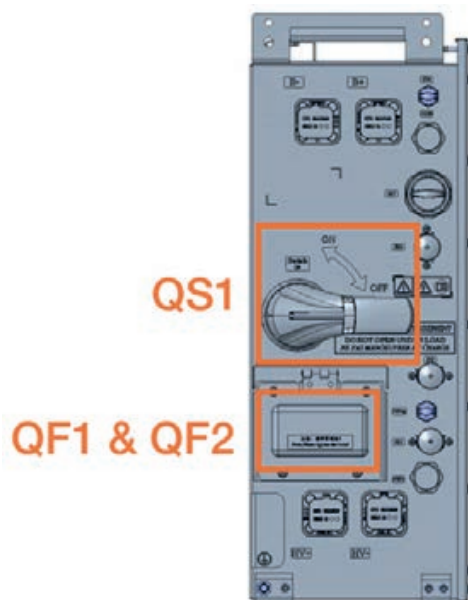

Figure 87. Location of QS disconnect and QF1, QF2 circuit breakers
You can find these switches and breakers in the control box, which is positioned on the left side of each B-Cab XXL, as shown in Figure 87.
- b. Turn B-Cab XXL switch QS to the “OFF” position. As per Figure 87.